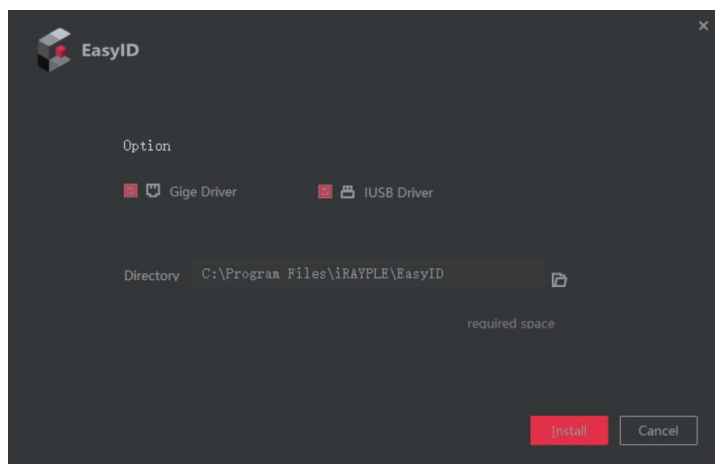

Figure 3-3 Drive and installation path selection
- 1、Click "Configuration" in Figure 3-3 to enter the "Advanced" page, and set "Jumbo Packet" to the maximum value "9014 bytes".